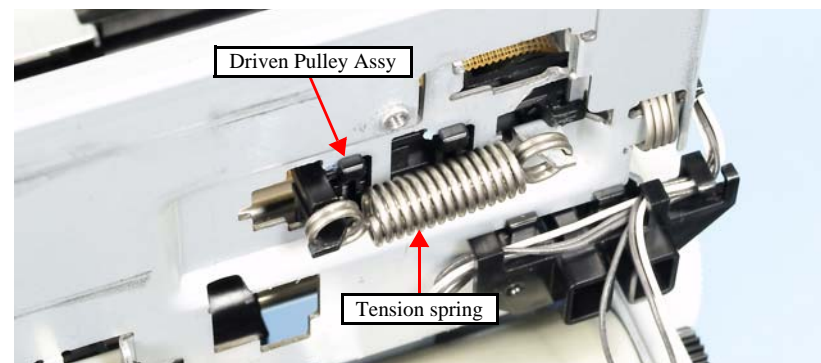

Figure 4-82. Removing the CR Motor (2)
1. Remove the Driven Pulley from the Main Frame. (See Figure 4-82.)